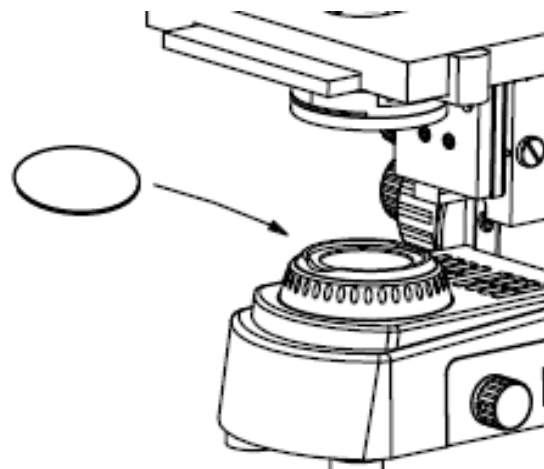

Fig. 16
1. Filters can enhance and improve the background and increase the contrast (see Fig. 16).